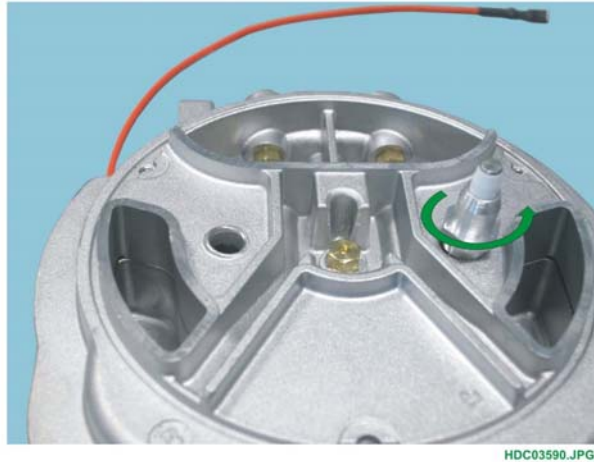

Fig. 38
1. Unscrew the spark plug fixing nut (see Fig. 38).